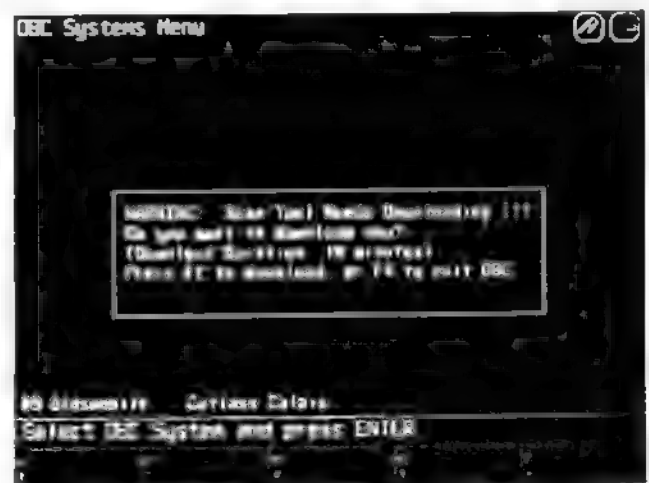

Figure 4-1
2. The "AD-OBC Initializing..." screen will appear. At this point, the analyzer communicates with the Scan Tool; detects the software mismatch, and displays a warning message (see Figure 4-1).
If the warning message in Figure 4-1 appears when the operator accesses the OBC function on the analyzer and no software update has been performed recently, it is most likely the result of a corruption of the Scan Tool's downloadable memory. Press [F2] and the analyzer will correct the problem.